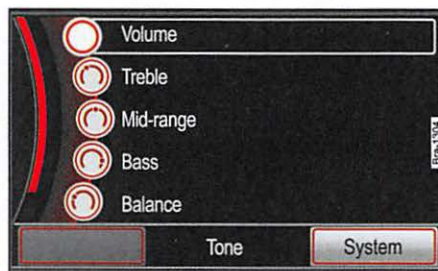

Fig. 83 Tone settings selection menu.
- Press the **[Sound]** function button on the lower left of the screen to open the tone and volume adjustment menu ⇒ fig. 83.
In the overview the current settings are graphically  displayed in the circle in the front of the respective menu item ⇒ fig. 83.
- In the **Sound main menu**, press the **[Volume]** function button ⇒ fig. 83.